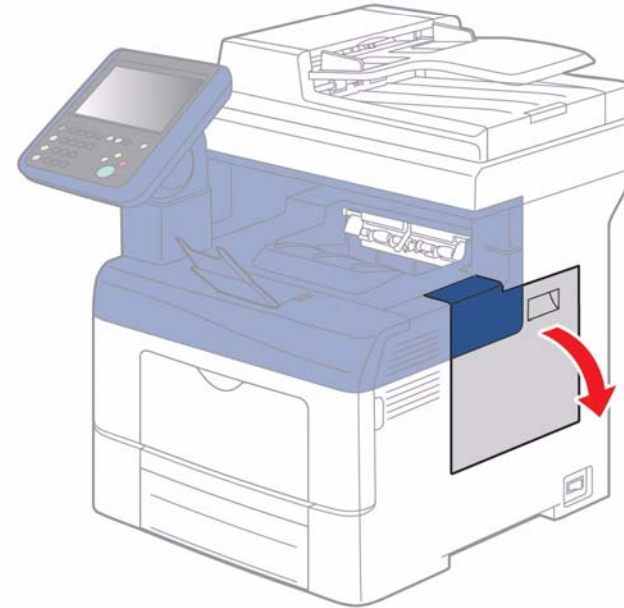

Figure 2 Open the Side Door
3. Open the side door, Figure 2.